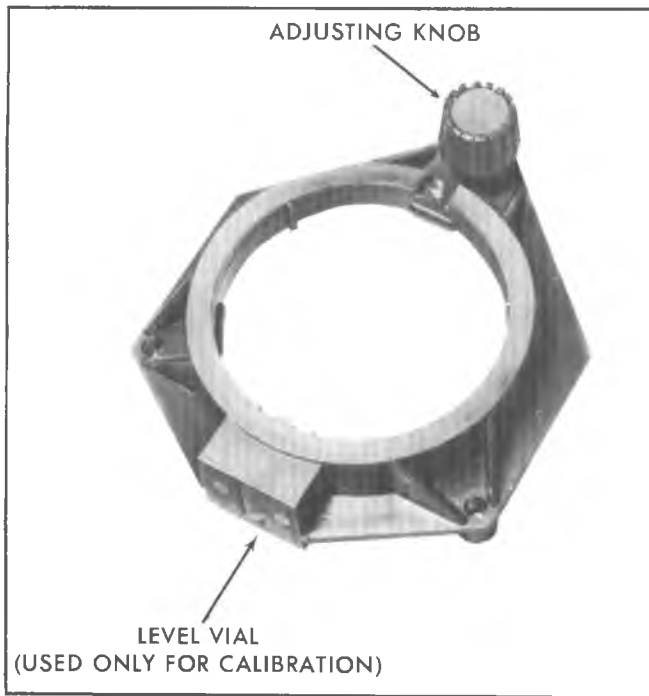

Fig. 2-Floor Slope Adapter J-25300-6
1. Attach a floor slope adapter—J-25300-6 (fig. 2) to each of the headlamp aimers—J-25300-1, -2 (fig. 3). The adapters will easily snap into position on the aimer when properly positioned.
3. Level each aimer unit by turning knob of floor slope adapter (fig. 2) either clockwise or counterclockwise until the top level vial bubble of the headlamp aimer registers in the centered (level) position.